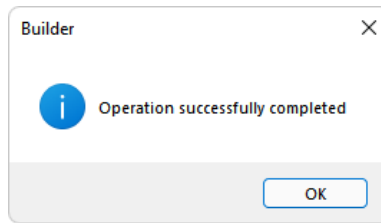

FIGURE 10-21
- When the check completes the program will prompt the user with the message in **FIGURE 10-21**. Click **OK**.